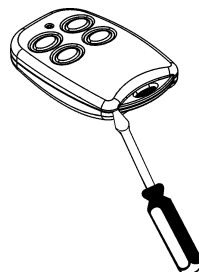

Figure B.7: Opening the EL-2614's Casing
1. Insert a small screwdriver into the pry-off slot – see *Figure B.7*. Carefully twist the screwdriver to separate the front and back of the casing.